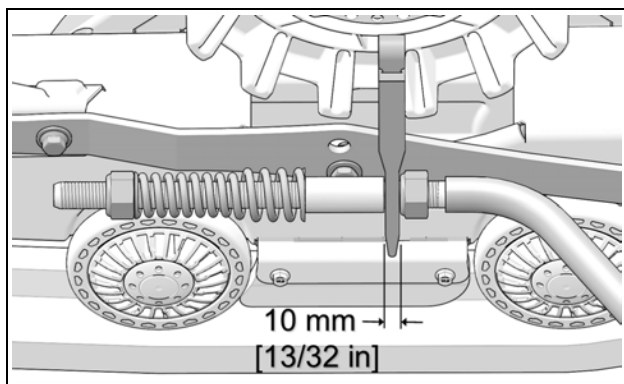

Figure 12
- **IMPORTANT:** Double-check the 10 mm minimum distance between nut and stabilizing arm guide. Re-adjust as needed. Figure 12.